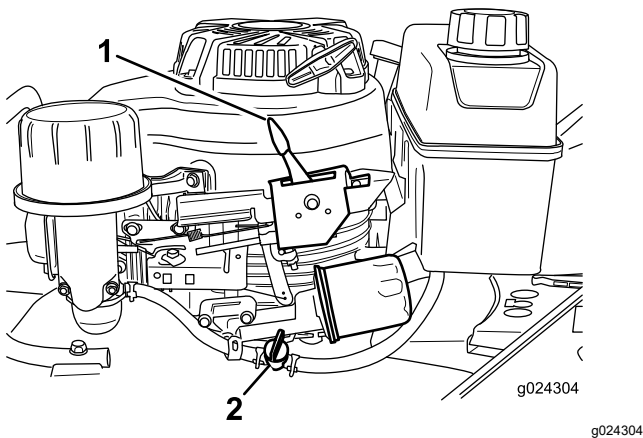

Figure 12
2. Open the fuel valve (Figure 12).
3. Move the throttle-control lever (Figure 12) to the Choke position.
Release the blade-control bar and move the throttle-control lever (Figure 12) to the Stop position.
**Note:** Close the fuel valve (Figure 12) if you will not be starting the engine soon afterward.